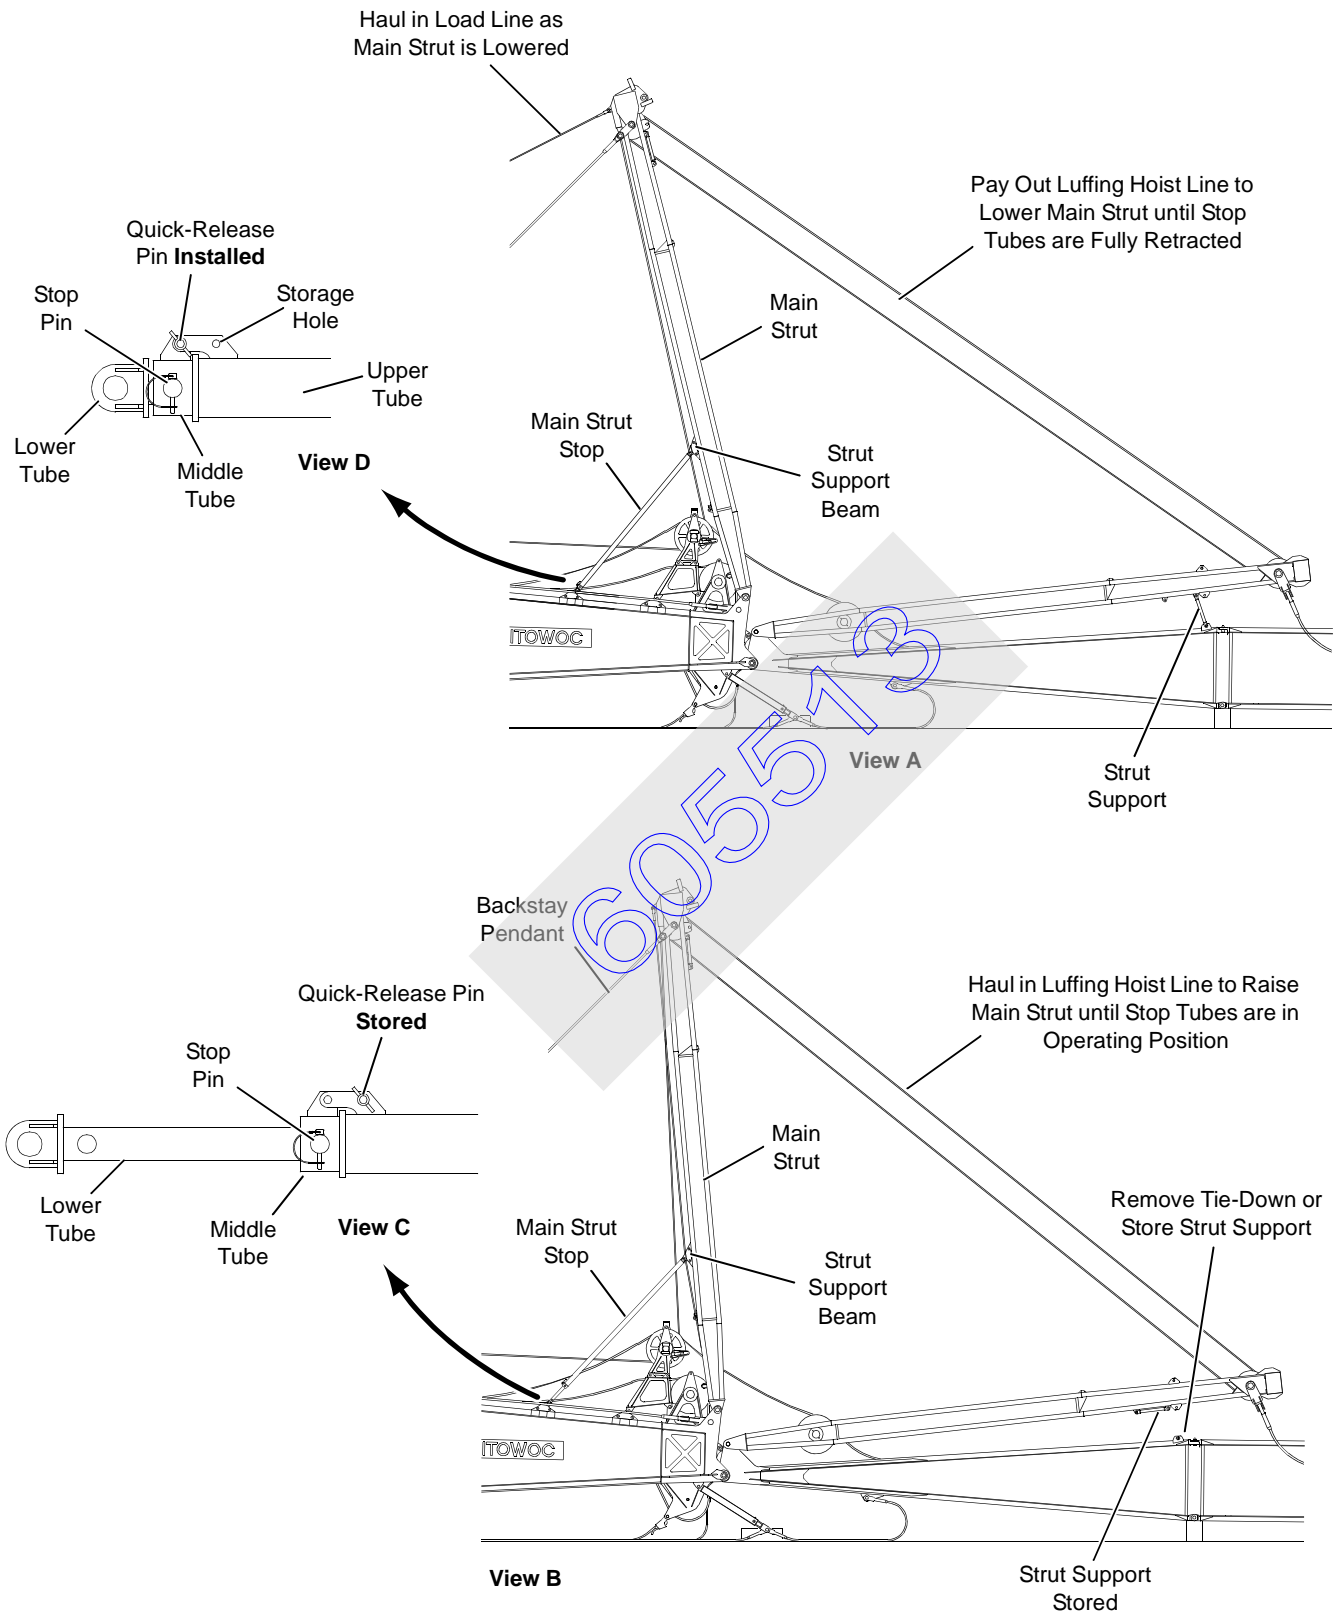

FIGURE 4-12
3. If not done, pin main strut stop tubes in fully retracted position (Figure 4-12, View D).
- a. Remove and store quick-release pin (Figure 4-12, View D). **Do not remove stop pin.**
10. Haul in load line and pay out luffing hoist line until main strut stop tubes are fully retracted (Figure 4-12, View A).
11. Remove quick-release pins from storage holes and install pins (Figure 4-12, View D).
14. Remove stop pin (Figure 4-12, View D) from both main strut stop tubes.
15. Raise main strut (haul in luffing hoist line) until hole in both middle tubes lines up with upper hole in both lower tubes (Figure 4-12, View C).
16. Install both stop pins (Figure 4-12, View C).
18. Remove quick-release pin from both main strut stop tubes and store pins (Figure 4-12, View C).
19. Luff up slightly to support jib strut (Figure 4-12, View B):